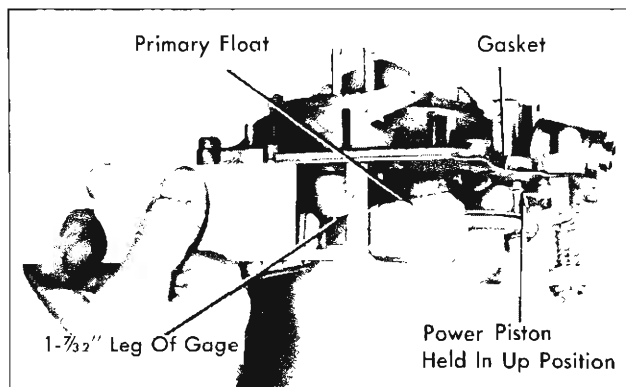

Fig. 46—Vacuum Assist Spring Adjustment
E. Vacuum Assist Spring Adjustment (Figs. 46 and 47)